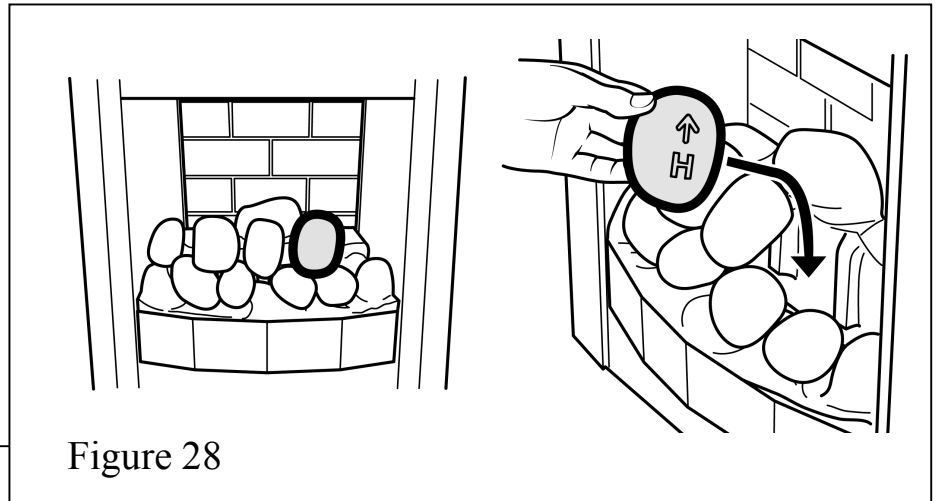

Figure 28
**10.** Hold pebble 'H' upright with the arrow pointing to the top. Place pebble 'H' between the front and rear base pebbles. It should rest in between pebbles 'C' & 'D' and against the moulded pebble in the rear pebble base. (See figure 28).